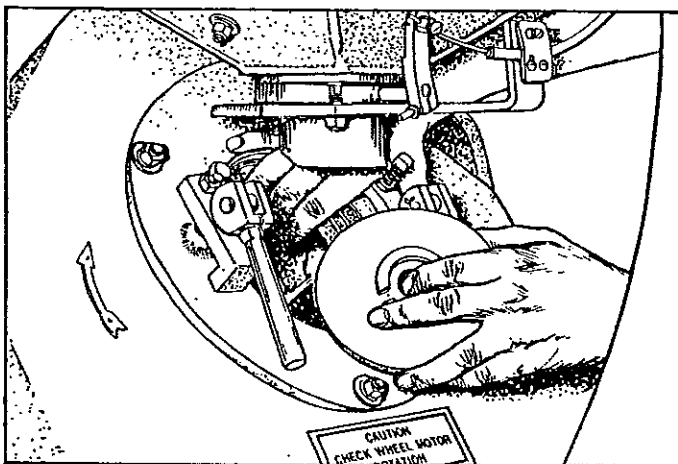

Figure 7. Install Centering Plate.
- c. Install centering plate (FIG. 7). Blades in top of wheel must be held in place until centering plate is inserted. Dowel pins in the back of wheel hub must fit into the slots on back of the centering plate. When properly seated the centering plate is flush with the back wheel plate.